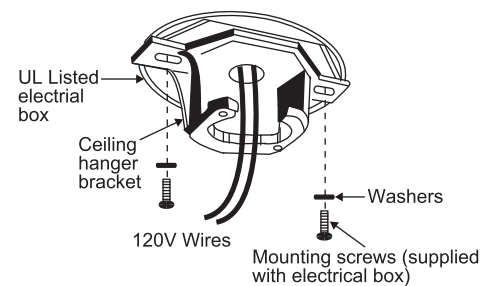

Fig. 6
Step 3. Pass the 120 volt supply wires from the ceiling outlet box through the center of the ceiling mounting bracket. (**Fig. 6**)
Step 4. Attach the ceiling mounting bracket to the outlet box using the screws and washers included with the outlet box. (**Fig.6**)